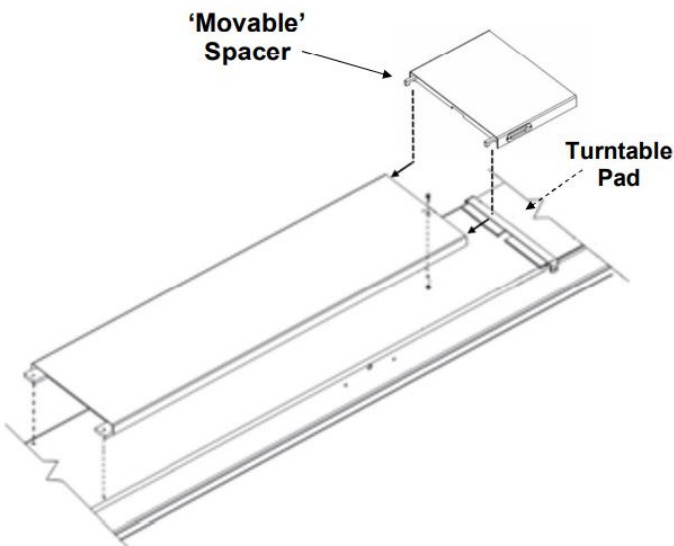

Fig. 5
6. Position Movable Spacer (#4) on Runway behind Turntable Pad. Insert the hooks of Movable Spacer into the holes of the Long Spacer – Fig. 5.